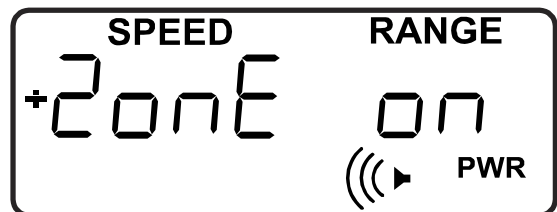

Figure 10
- ☐ Construction/School Zone Mode (Figure 10)